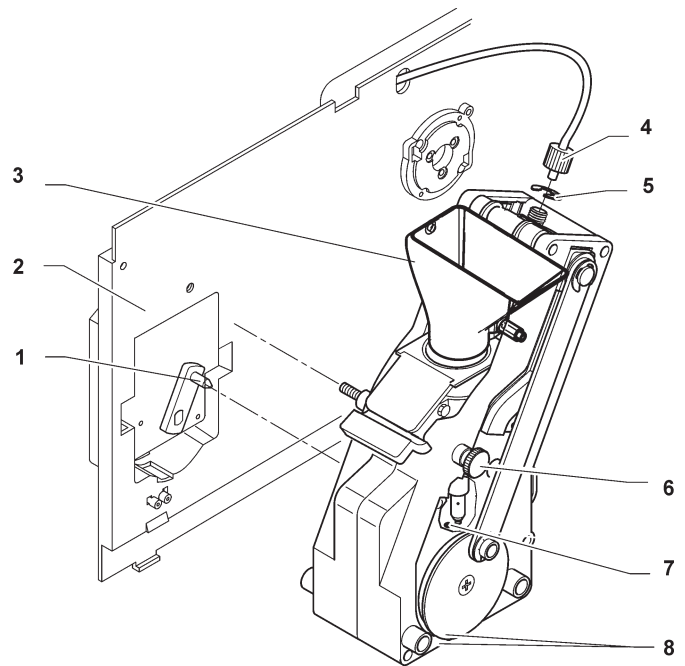

Fig. 22
- remove the boiler Teflon hose connection from the upper piston, paying attention not to lose the seal (see Fig. 22);